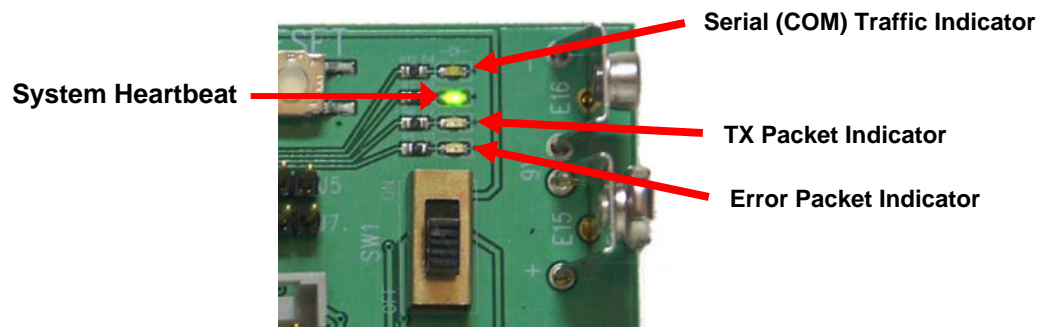

Figure 4. LED Indicators
There are five (5) total LED's (Refer to Figure 4) used for visual indication of:
4. Data transmit (TX) – Green